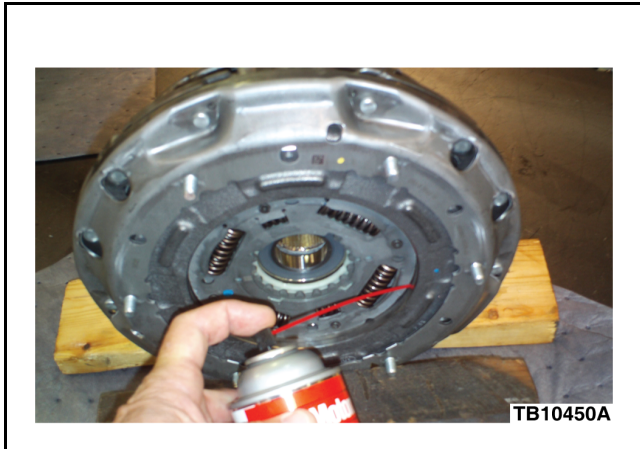

Figure 2 - Article 13-9-4
- a. Clean clutch friction material using Motorcraft® Metal Brake Parts Cleaner or equivalent that contains 60% acetone. Use extreme caution to keep solvent off of the internal clutch bearing assembly by always spraying solvent in the down direction. Bend the plastic spray nozzle to help direct the spray into the clutch discs. (Figure 2)
- b. Spray Motorcraft® Metal Brake Parts Cleaner or equivalent that contains 60% acetone in a downward direction on each friction disc. Rotate the entire clutch assembly to the 3 o'clock position repeat process six (6) times while spraying on both sides of the clutch plates.
- (1) Front of clutch one disc. (Figure 2)
- (5) Solvent cleaner tip angle to avoid bearing contact. (Figure 2)